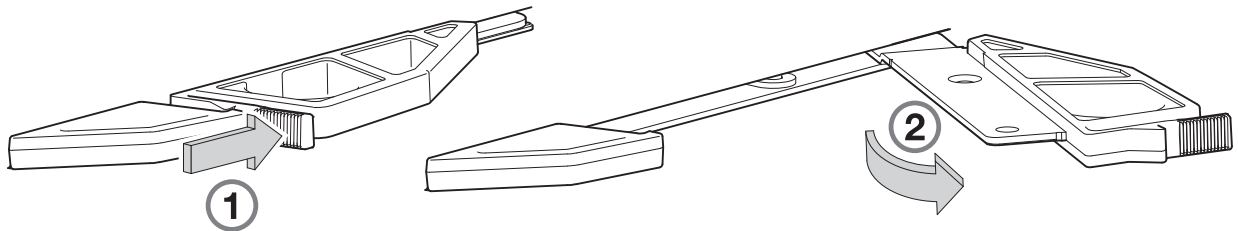
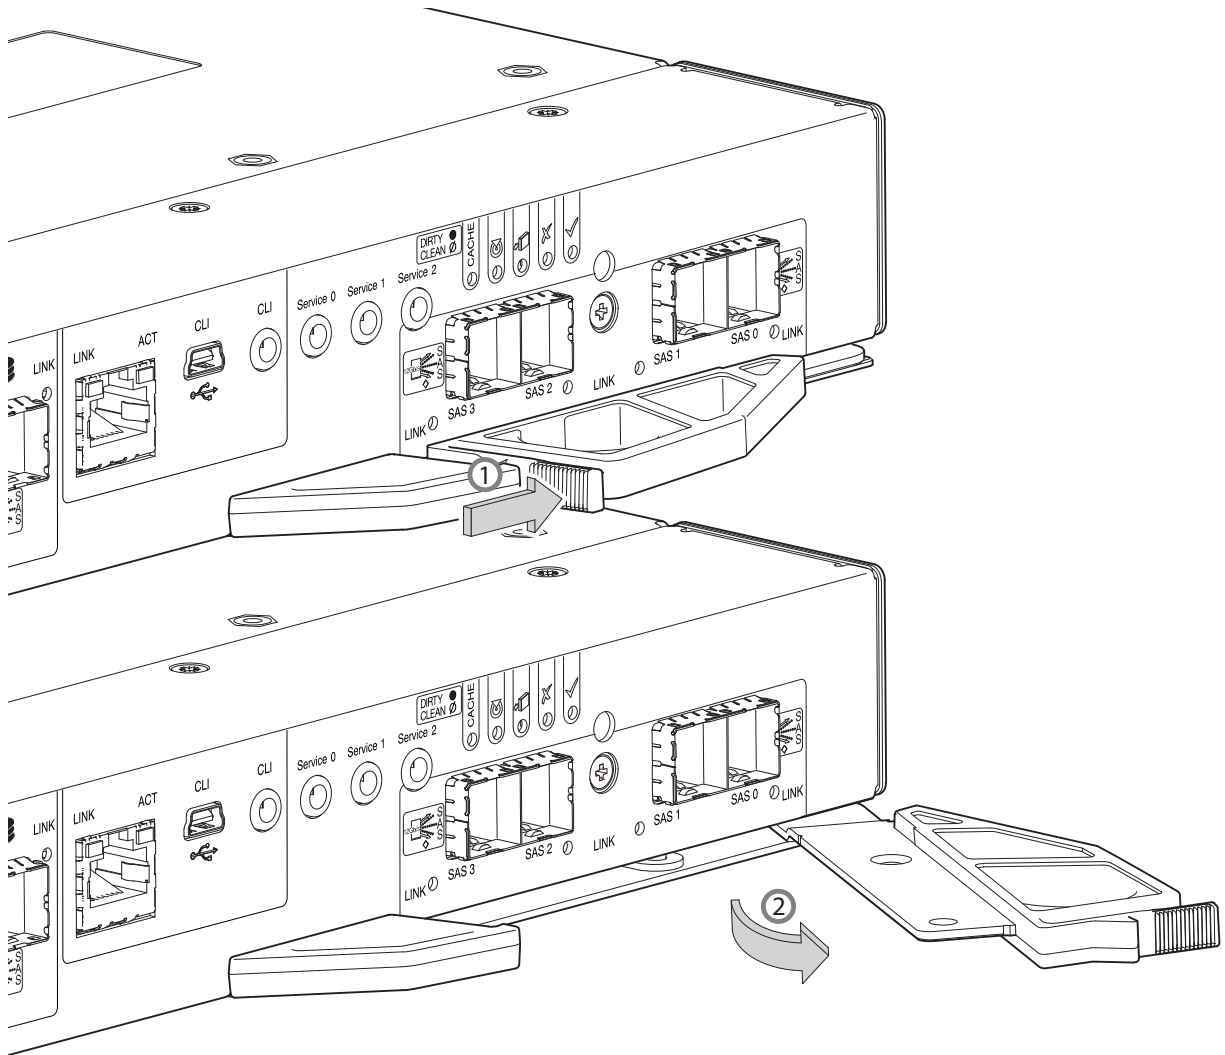

Figure 99 IOM latch operation detail
Figure 100 Removing an IOM
4. Grasp the module latch between the thumb and forefinger, and squeeze the flange and handle together to release the latch handle from its docking member (detail No.1), and swing the latch out to release the IOM from its seated position (detail No.2) as shown in Figure 99 and Figure 100 (page 124).
5. Swing the latch handle open as shown in detail No.2 within Figure 99 and Figure 100 (page 124).
6. Grip the latch handle and ease the IOM forward from the slot as shown in detail No.2 within Figure 100.
NOTE: When performing the following procedure, refer to Figure 100 \(page 124\) while ignoring the directional arrow. For installation, the IOM will travel in the opposite direction relative to the arrow shown.